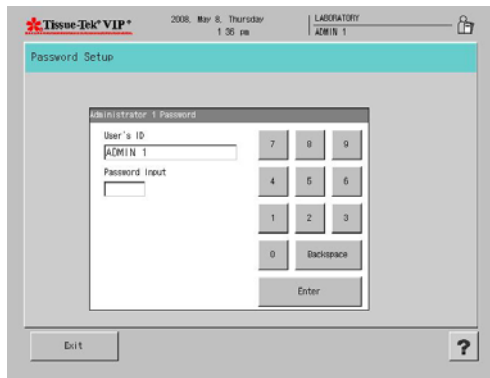

Figure 3-J
- The Password Setup screen displays (Figure 3-J).